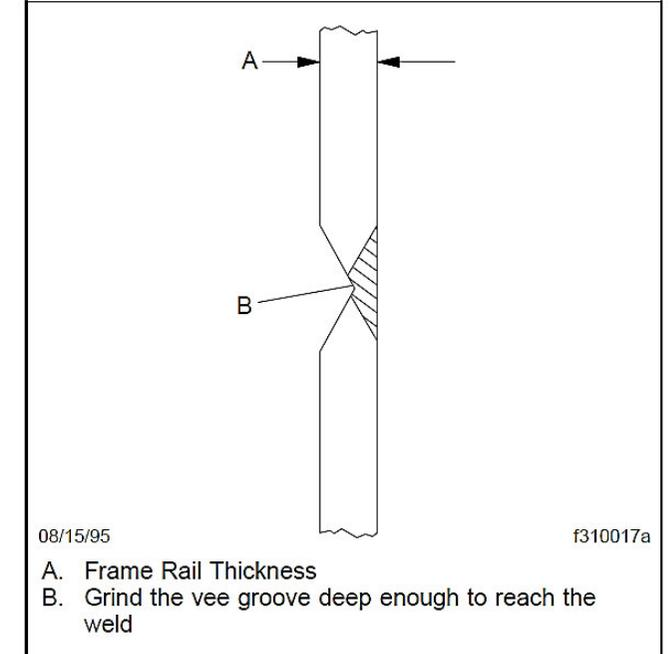

Fig. 6, Cross-Section View
5. Cut a deep enough vee groove on the opposite side of the frame rail to reach the weld metal. See Fig. 6.